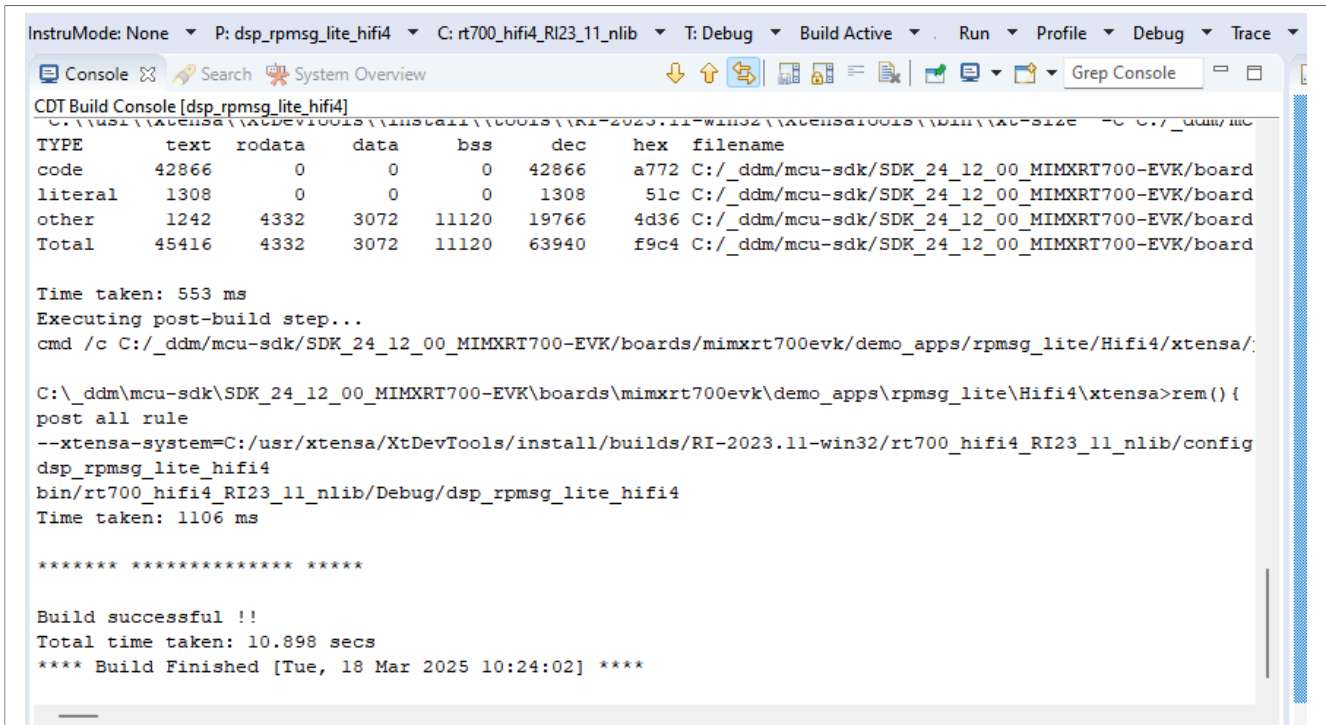
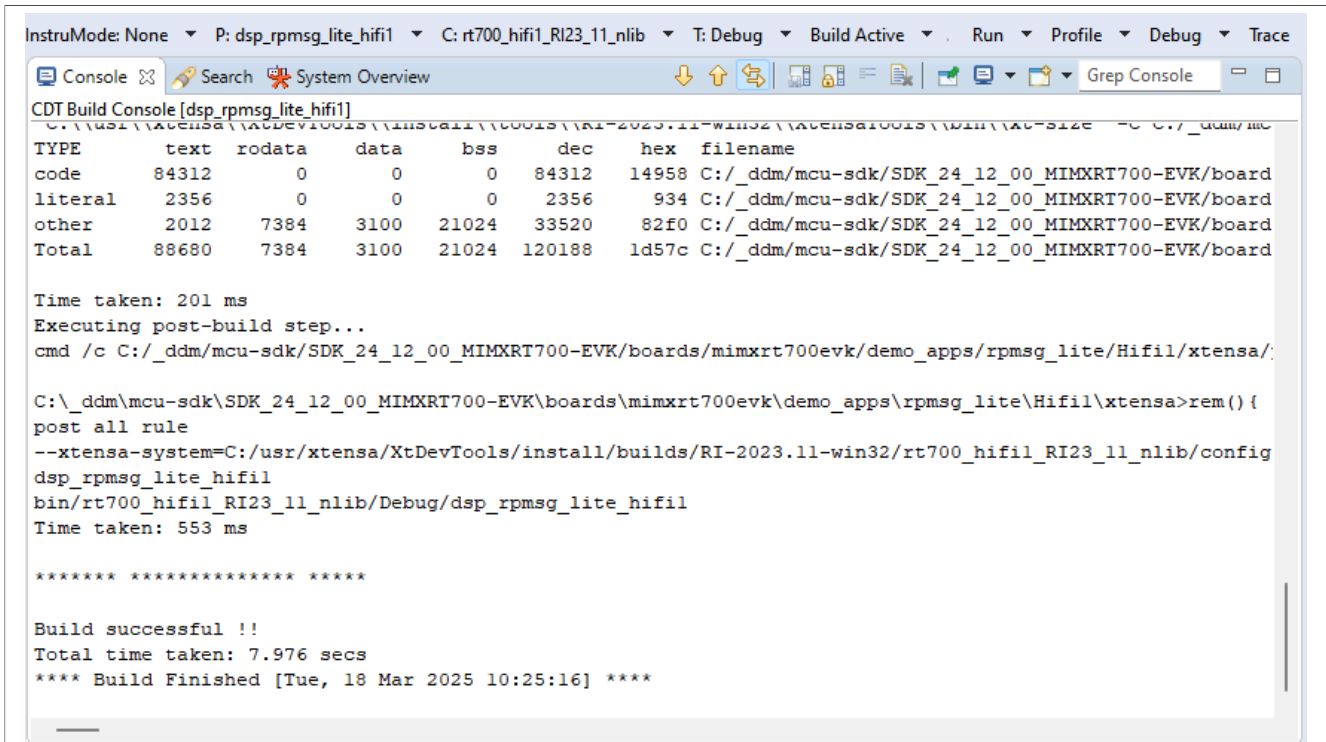
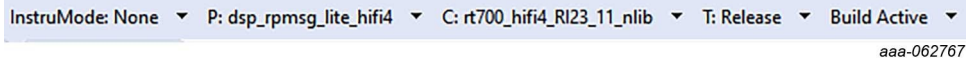

Figure 11. Build HiFi4 project in Xtensa Explorer
Figure 12. Build HiFi1 project in Xtensa Explorer
Figure 13. Use the correct configuration depending on the project
4. Build the project, as shown in Figure 11 and Figure 12. Use correct configurations for each project in the pulldown as shown in Figure 13: